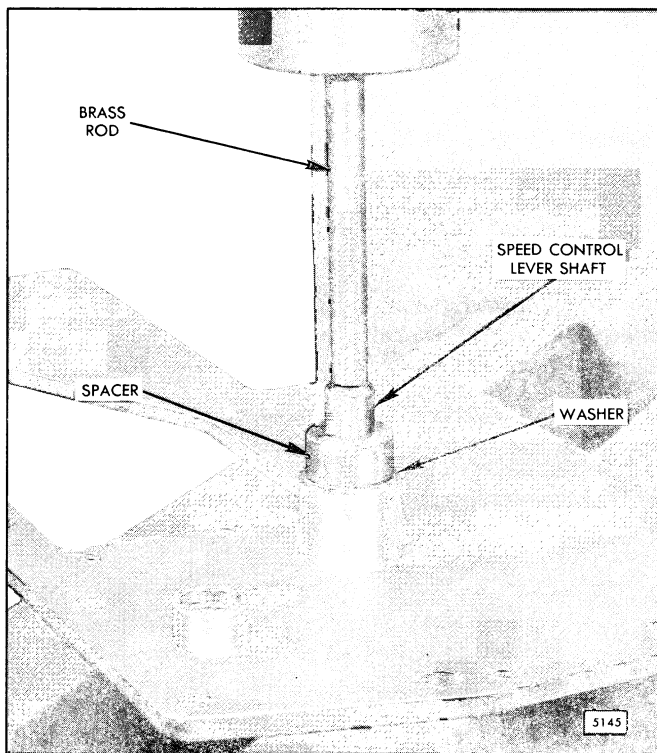

Fig. 5 - Removing Speed Control Lever Shaft From Cover
- d. Place the cover assembly on the bed of an arbor press with the speed control lever shaft parallel and directly under the ram of the press. Use a suitable brass rod and press the shaft down through the spacer (Fig. 5) and remove the shaft, spacer and washer from the cover assembly.